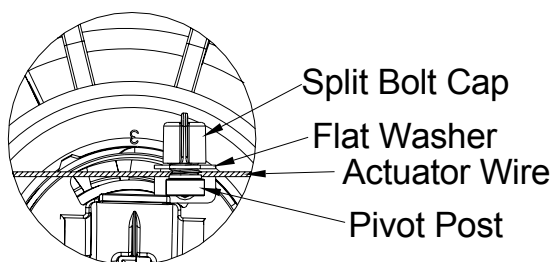

Figure 66. 13057 Clamp Installed
2. Using the first pan away from the actuator, push the inner cone to the open position and clamp the wire with a flat washer and a split bolt cap to the pivot post, **see figure 66.**
The Line Charger is used to power individual Anti-Roost lines in a house. See **Figure 66**.